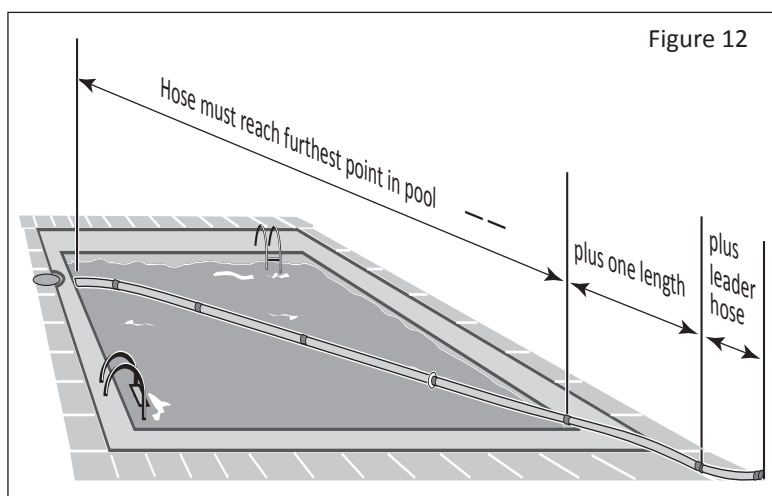

Figure 12
2. The hose should be long enough to reach the end of the pool, plus one hose section and the leader hose. See **Figure 12**.